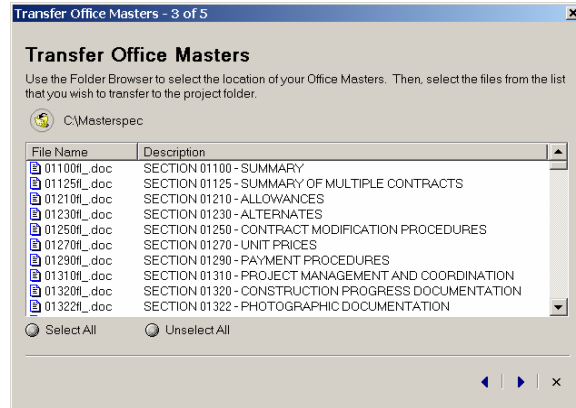

Figure 4-7 Transfer Office Masters Dialog
3. **Transfer Office Masters** dialog (Figure 4-7). Select the MASTERSPEC master files or the office master files to be copied to the new Project Folder. If necessary, use the folder browse button to locate the folder that contains the master specifications. **NOTE:** This process may take several minutes if your specifications are located in different subdirectories.